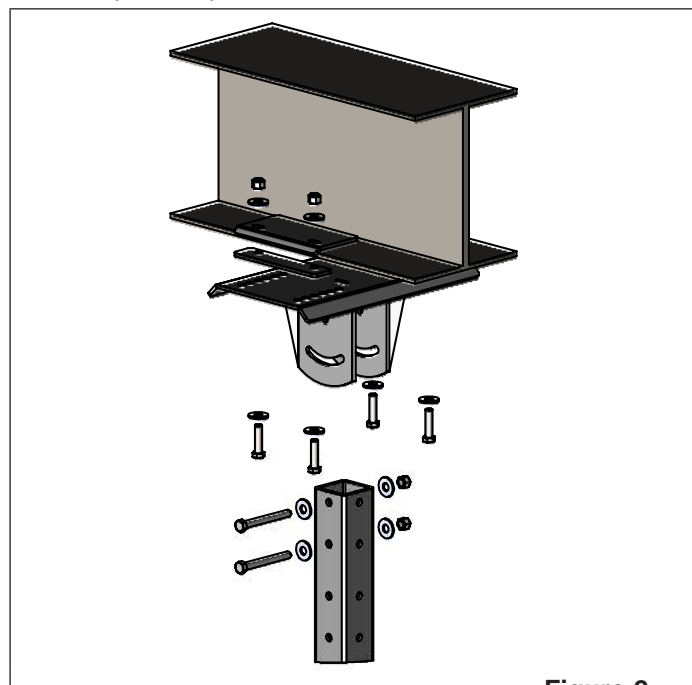

Figure 2
- So fan can be hung using standard I-Beam mounting bracket Figure 2 \(page 6\) with a gap between the angles for the 3in x 3in [75mm x 75mm] drop tube.